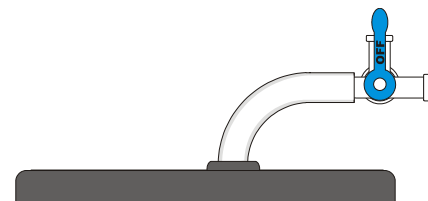

Figure 4
8. Connect the plastic tubing to the sensor valve. If your sensor has a blue plastic valve on it, place the valve in the position shown in Figure 4.